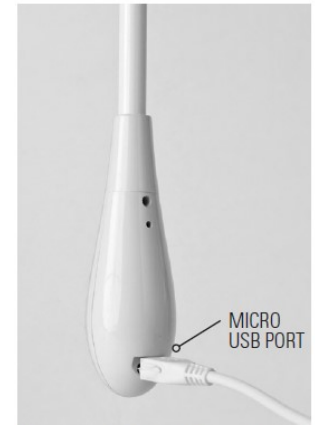

Figure 4: Wand Charging Port
1. Plug the charger into the micro USB port on the back of the wand [Figure 4] and then plug into an AC outlet. If the battery is fully charged, the LED light will glow green. If not, leave the wand to charge until the LED is green.